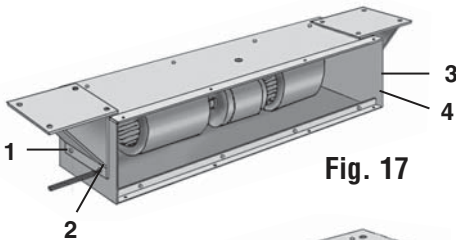

Fig. 17
2. One side at a time, place the Extension Bracket on the top side of the unit and align the top mounting holes with the threaded insert holes on the top of the unit. As a precaution, use the top mounting bolts to hold the bracket in place. Mark the two (2) bottom holes of the bracket on the side panel of the unit. (See Fig. 17)